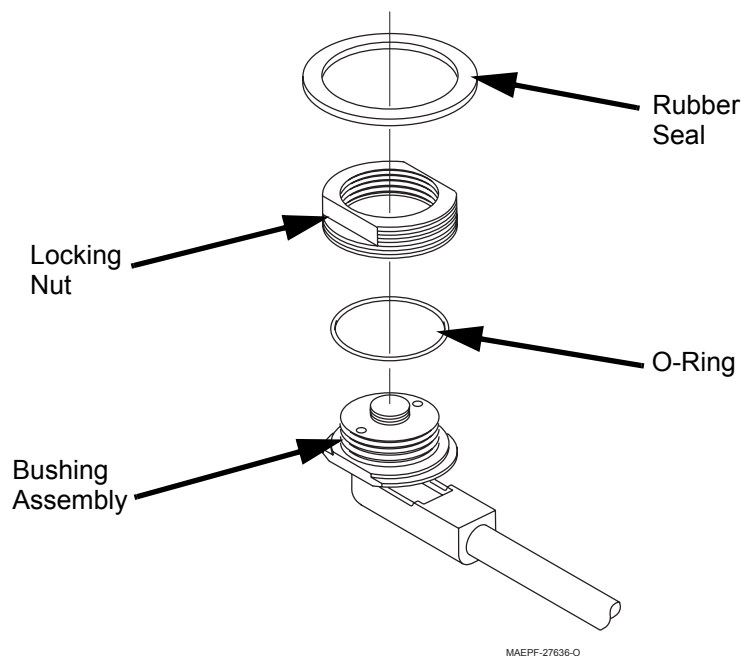

Figure 2. Bushing Assembly Parts
8. Refer to Figure 2 on page 5. Apply a generous amount of silicone grease (supplied) to the inner and outer threads of the locking nut. In addition, be sure to apply some silicone grease to the rubber "O" ring washer and the groove in the locking nut in which the "O" ring washer is seated.
13. Apply silicone grease to the weatherproof rubber seal (see Figure 2).